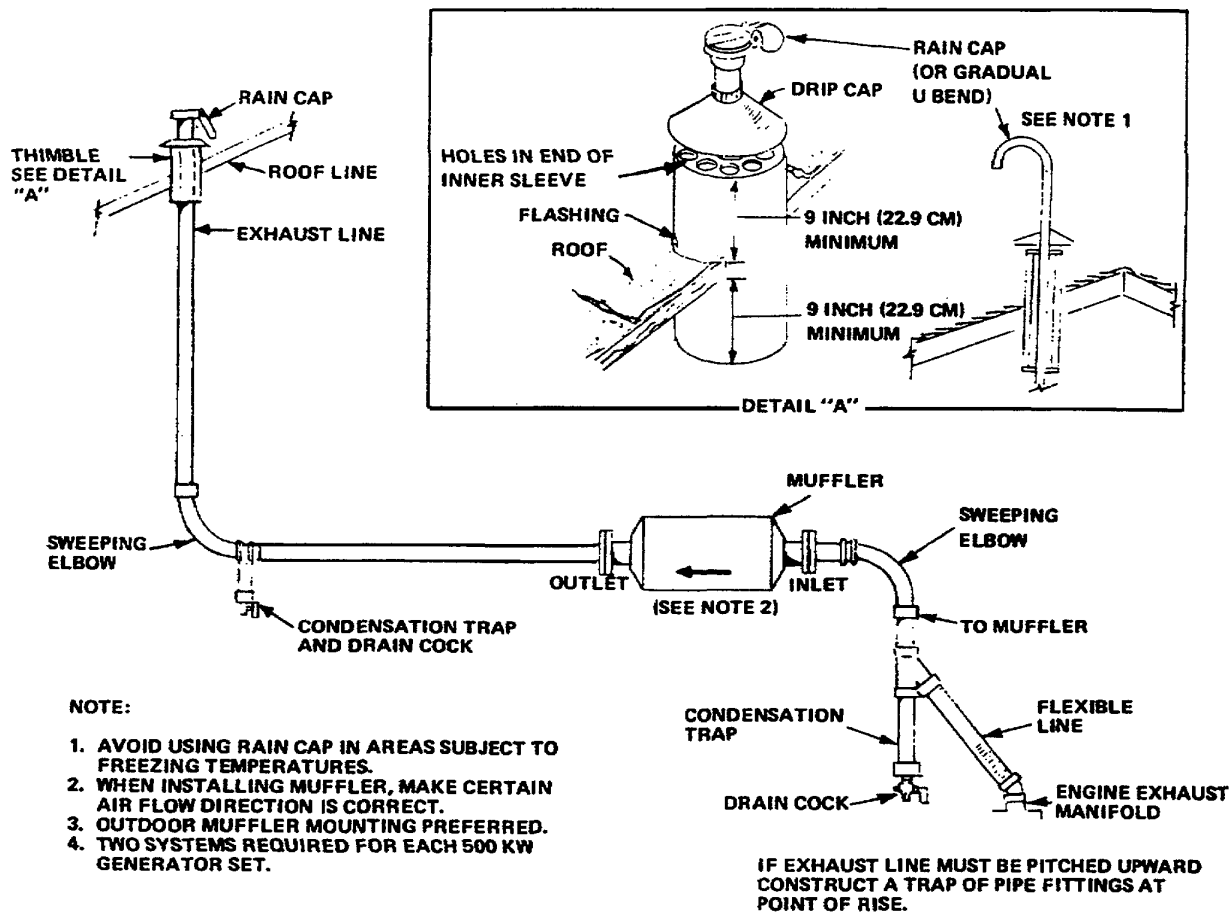

Figure 17-21. 500 KW Exhaust System
**17-77.** Engine exhaust piping can accumulate a considerable amount of condensed moisture after unit shut down, particularly if the exhaust system is run through lengthy piping. To prevent condensed moisture from running back into the engine, a condensate trap and drain should be incorporated at some low point ahead of the engine manifolds (see figures 17-21 through 17-23).